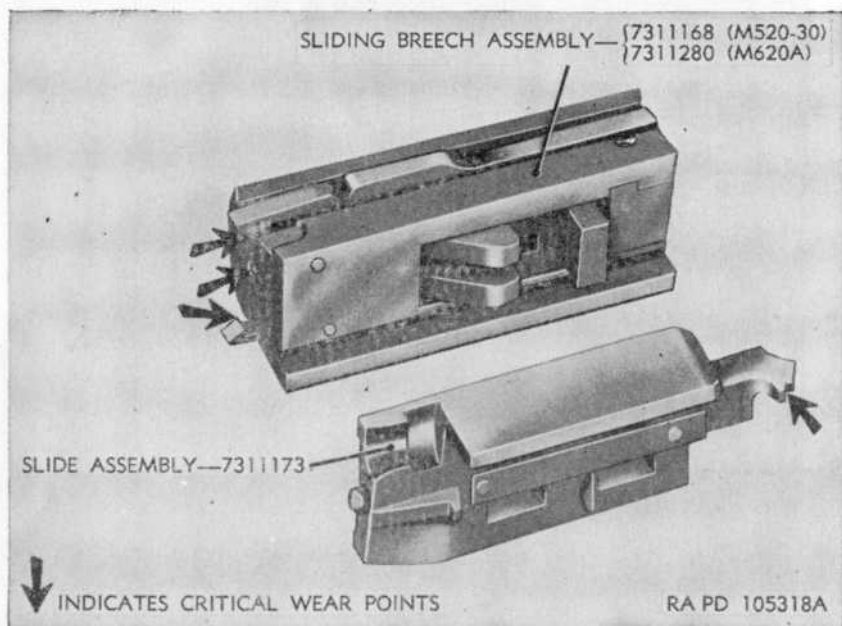

Figure 40. Sliding breech and slide groups for both Stevens shotguns.
- (1) Remove sliding breech and slide group (fig. 40) from remainder of shotgun as described in paragraph 44*c*.
- (4) Install sliding breech and slide group (fig. 40) on shotgun as described in paragraph 51c.